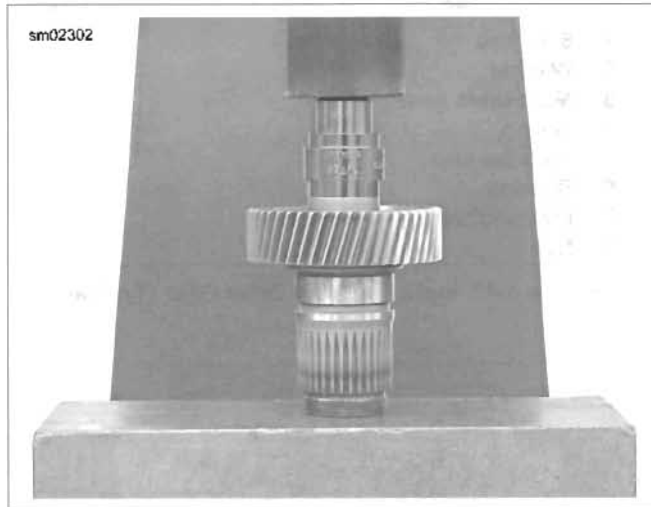

Figure 6-41. Installing Transmission Side Needle Bearing in Main Driver Gear
6. See Figure 6-41. Turn over the main drive gear in the arbor press. With the tool at the 0.188 in. step, press inner bearing until tool contacts gear.